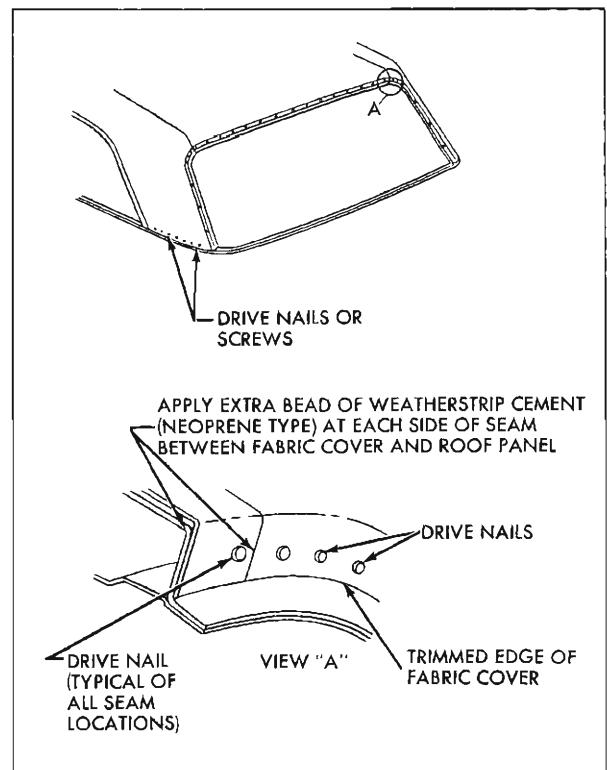

Fig. 21-77 Drive Nail Installation
15. At windshield and back window openings cement cover opening as shown in View "A", Fig. 21-77. Apply extra bead of cement to each side of dielectric seam between fabric cover and roof panel at windshield and back window openings. (View "A", Figure 21-77).
16. Install drive nails at windshield and back window openings. (View "A", Fig. 21-77 shows typical drive nail installation.)
17. Install screws (or drive nails) at belt line of rear quarter area. (Fig. 21-77).
18. Trim off material at windshield, back window, and rear quarters. View "A" in Fig. 21-77 shows where trimmed edge should occur in openings.